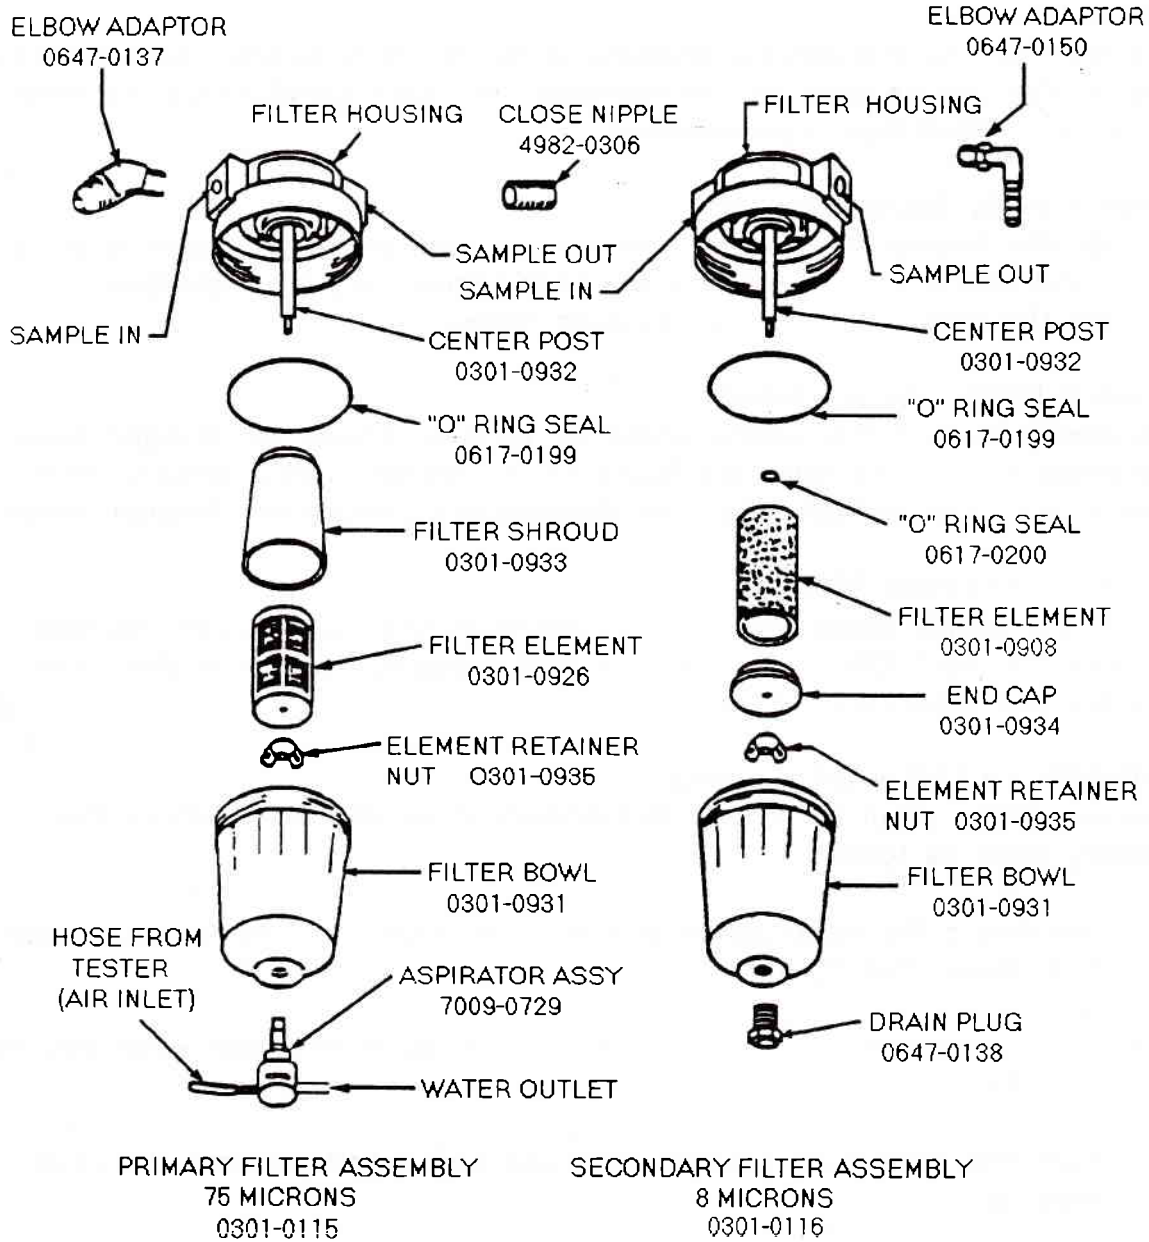

Figure 40, Filters
1. Disconnect the water outlet and air inlet hose from the fitting on the filter bowl. See figure 40.